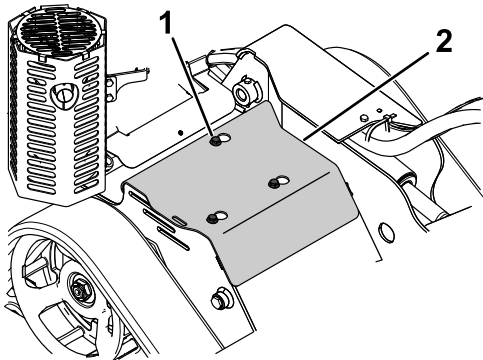

Figure 19
4. Loosen the 3 bolts securing the cover plate to the frame sequentially until the cover is loose (Figure 19).
1. Bolt (3)
6. To install the cover plate before operating the machine, slide the plate into place and secure it with the 3 bolts you loosened previously (Figure 19).